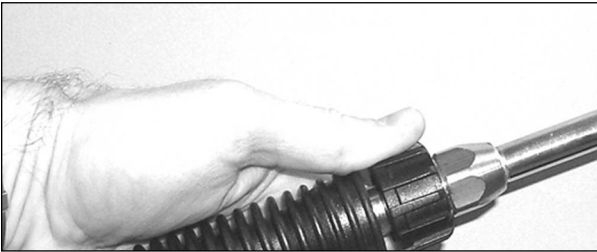

Figure 6 - Attach lance to gun
5. Attach the lance to the gun (see Figure 6).